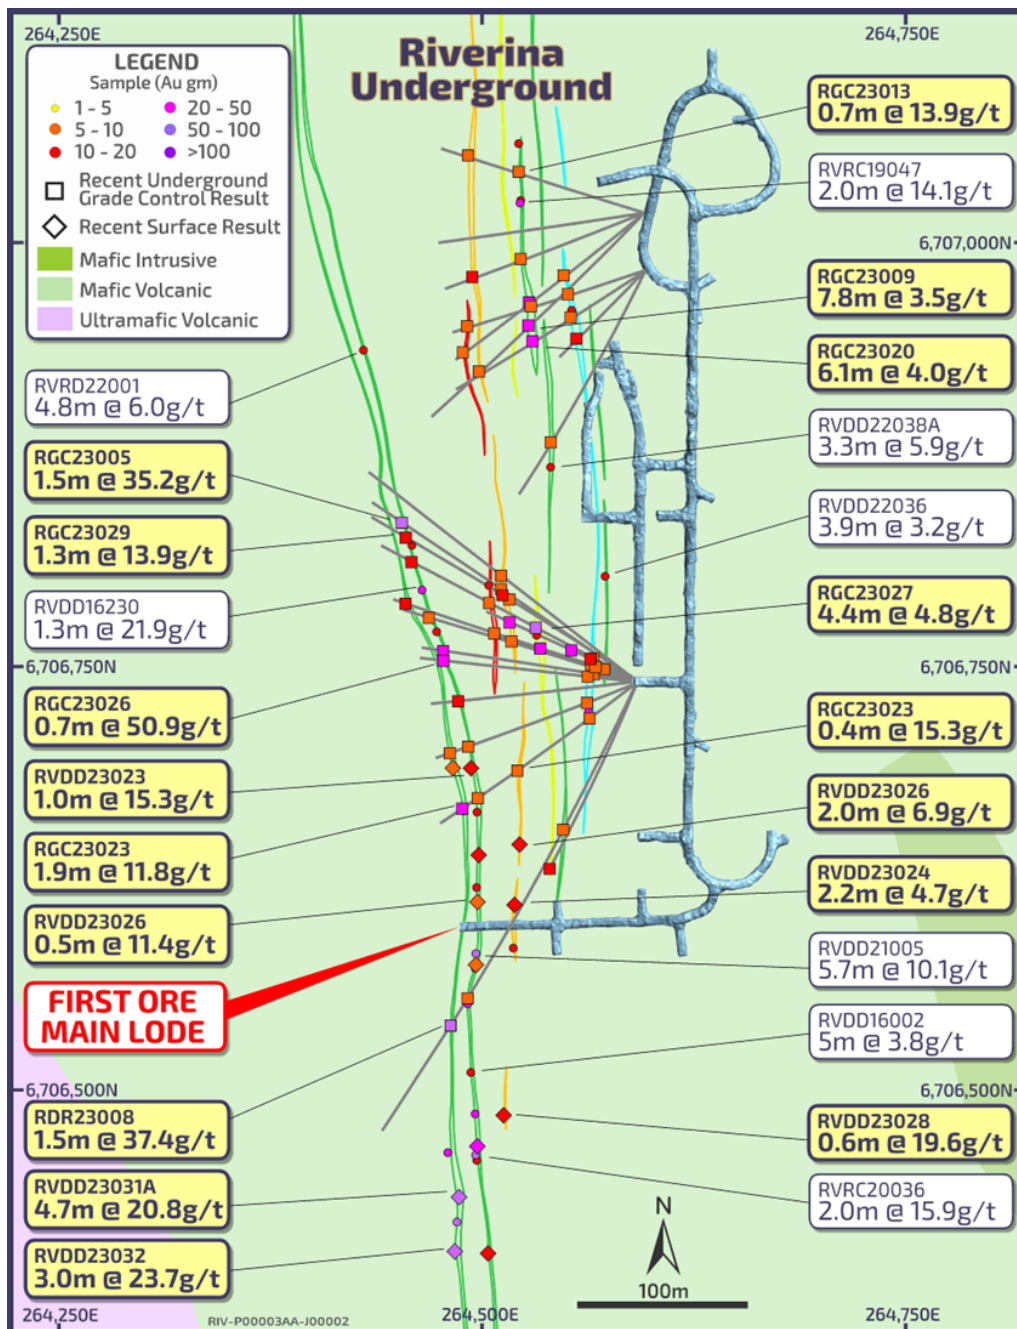

Figure 1 - Plan View of Riverina showing location of first ore development on Main Lode as well as the expected grades and strike length of the orebodies
- First ore from Riverina Underground Main Lode developed four weeks ahead of FID schedule (see Figures 1,2 and 3)
New significant surface infill drill intercepts include (see Figures 1 and 4):
New significant underground grade control drill intercepts include (see Figures 1,4 and 5):
The 2295 access has intersected the Main Lode East orebody as shown in Figure 1, with this key milestone achieved four weeks ahead of the FID schedule. Figure 1 also demonstrates the strike length and continuity of the 2 Main Lodes (green), as well as the grade control highlighting significant potential upside of the Murchison lodes that may convert to reserve with additional drilling. Importantly, the decline and accesses are located such that any Murchison lodes (shown in orange, yellow and blue) can be mined off the existing infrastructure, further supporting the low capital intensity of the mine.